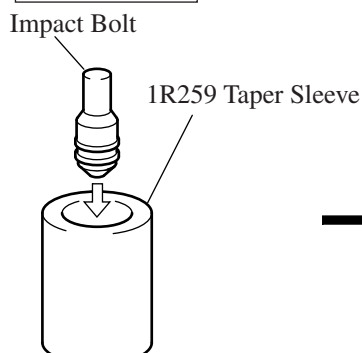

Fig. 22A
2. In order to correct the deformation, insert impact bolt with the fluoride ring 20 into the repairing tool, Taper sleeve (No.1R259) and leave it in the repairing tool about 10 seconds. (see Fig. 22A)